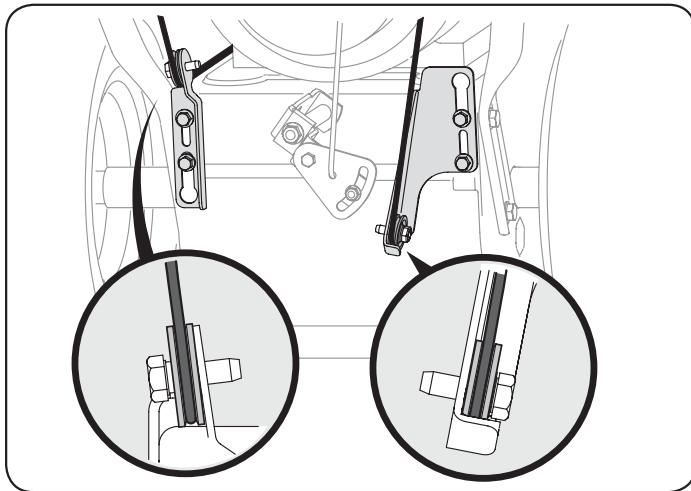

Figure 1
2. Observe the lower area of the snow thrower to be sure both cables are aligned with roller guides. See Figure 1.